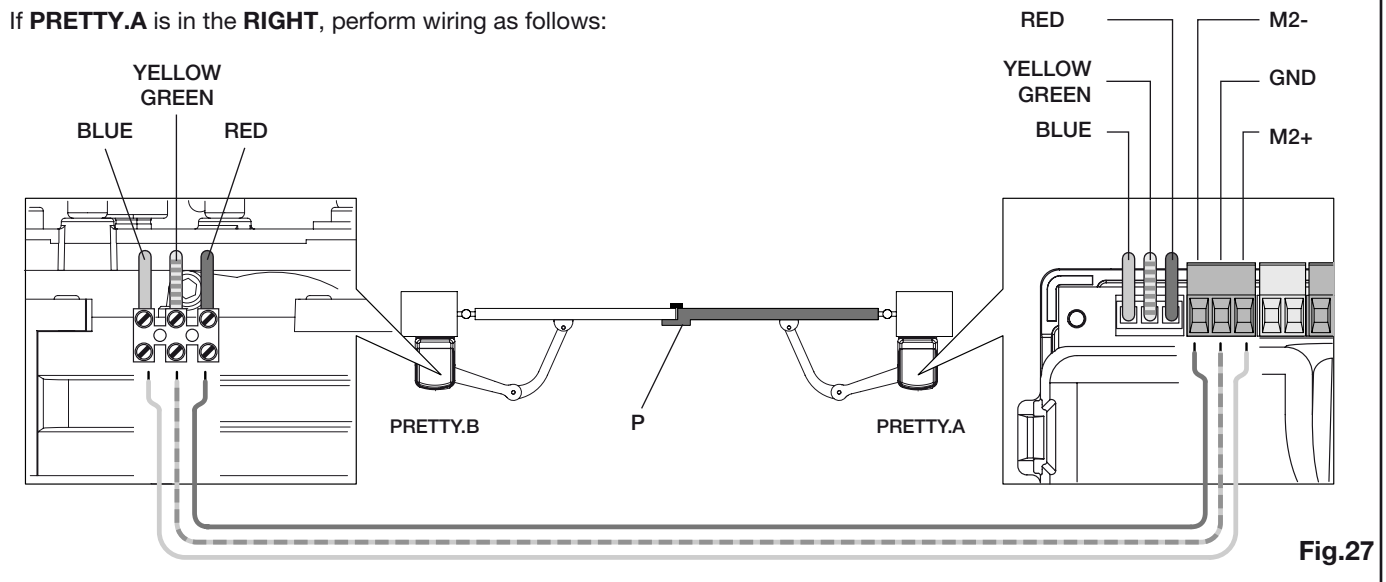

Fig.27
If the leaves have a profile similar to that highlighted in detail P in figure 27/28, keep in mind that the opening manoeuvre always starts with the PRETTY.A motor, while the closing manoeuvre always starts with the PRETTY.B motor. If the profile is in the leaf of the PRETTY.B motor, this sequence can be inverted by means of the MINV function.
b) the leaf that has a profile (Fig.27/28, ref-P) must be the last to close.
In gates that have a profile (figure 27/28 - part.B), a phase shift time must be set between movements in order to prevent contact between the leaves.
Invert the leaf opening and closing sequence, in the presence of a profile (Fig 27/28 ref. P). Normally the PRETTY.A motor starts the manoeuvre with 3 seconds advance with respect to the PRETTY.B motor. In the closing phase the PRETTY.B motor starts the manoeuvre in advance with respect to the PRETTY.A motor with a time that can be configured by the TDMC function.